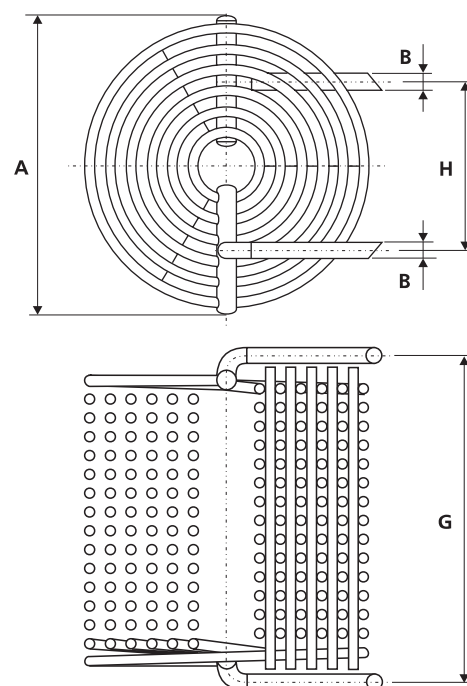

Fig. 2.8-14 Dimensioned sketch of interstage liquid subcooling coil
- Vessel with welding connections, as shown in Fig. 2.8-14.
- Subcooling coil, welded into vessel (see Fig. 2.8-14 and Table 2.8-3).